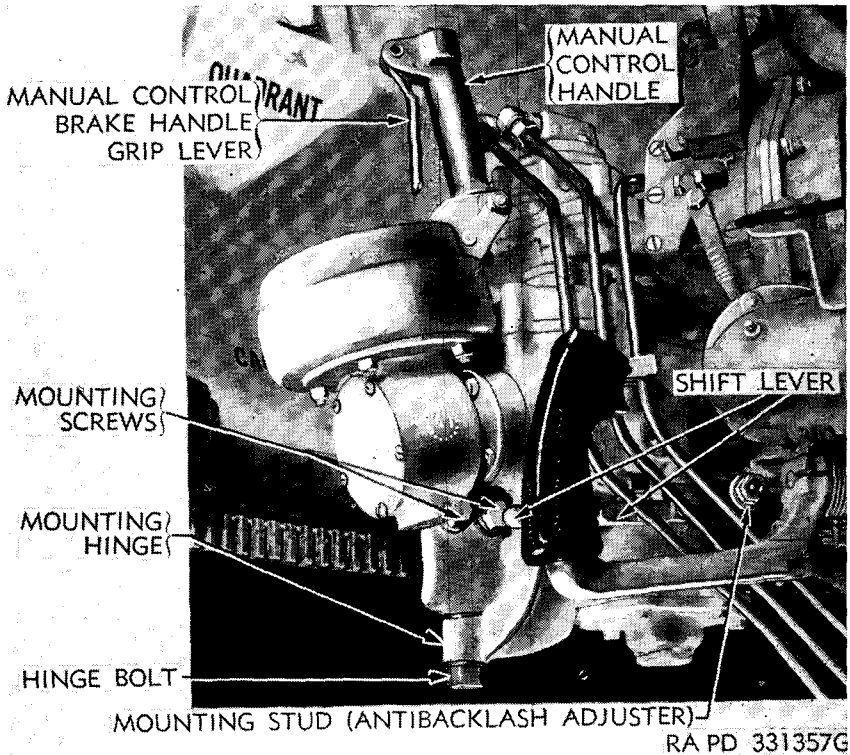

Figure 166. Traversing gear box mountings.
- (1) Disconnect three oil feed lines at top of hydraulic traversing motor. Remove two screws with $\frac{3}{4}$ -inch heads holding gear box mounting bracket hinge to side of turret (fig. 166). Remove lock nut, nut, washer, and spring from antibacklash adjustment stud. Install both nuts, and lock together to remove stud. Remove stud. Remove screw with 1-inch head in front of gear box. Remove two screws with $\frac{3}{4}$ -inch heads